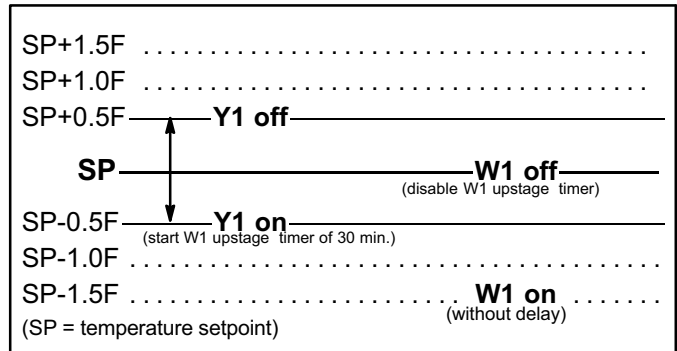

Figure 16. Normal Heat Mode
- small heat demand: temperature is between (setpoint - 1.5°F) and (setpoint - 0.5°F), and 30-minute upstage timer has not expired (see Normal Heat Mode graph, figure 16)
- large heat demand: temperature is below (setpoint - 1.5°F), or 30-minute upstage timer has expired (see Normal Heat Mode graph, figure 16)